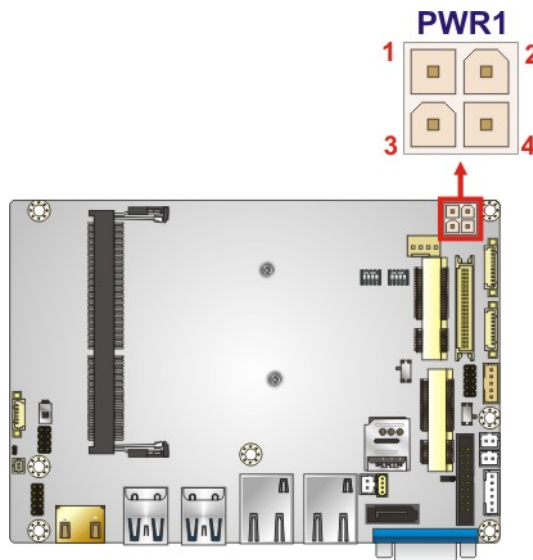

Figure 3-2: Power Connector Location
- CN Location:** See **Figure 3-2**